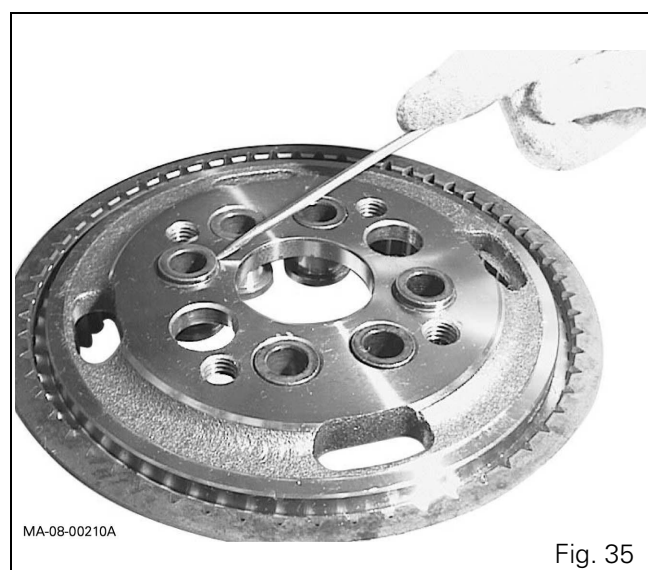

Fig. 35
**39.** Mount the ring gear carrier on a workbench and ensure that the rings are level with the ring gear carrier surface using tool ref. CA715278 (see § K). Two diametrically opposed rings must be positioned slightly higher than the ring gear carrier surface to act as guide pins (Fig. 35).